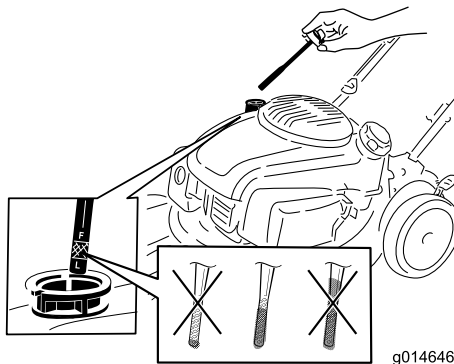

Figure 16
2. Remove the dipstick (Figure 16).
9. Remove the dipstick and read the oil level on the dipstick (Figure 16).